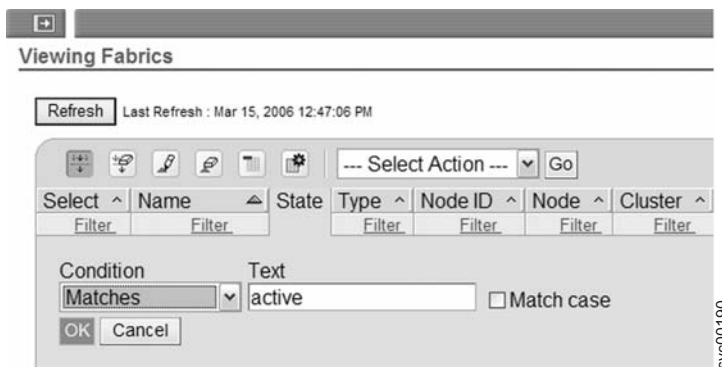

Figure 7. Displaying all active devices
3. From the **Condition** menu, select **Matches** and click **OK**. See Figure 7.